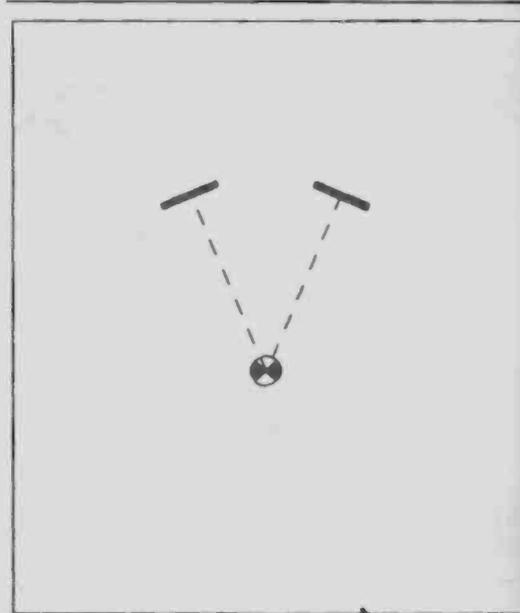

FIGURE 14-11: Musicians appear close to you in the concert hall.
- A wide listening angle and close focus transport you to "Row A" in a concert hall (Fig. 14-11).